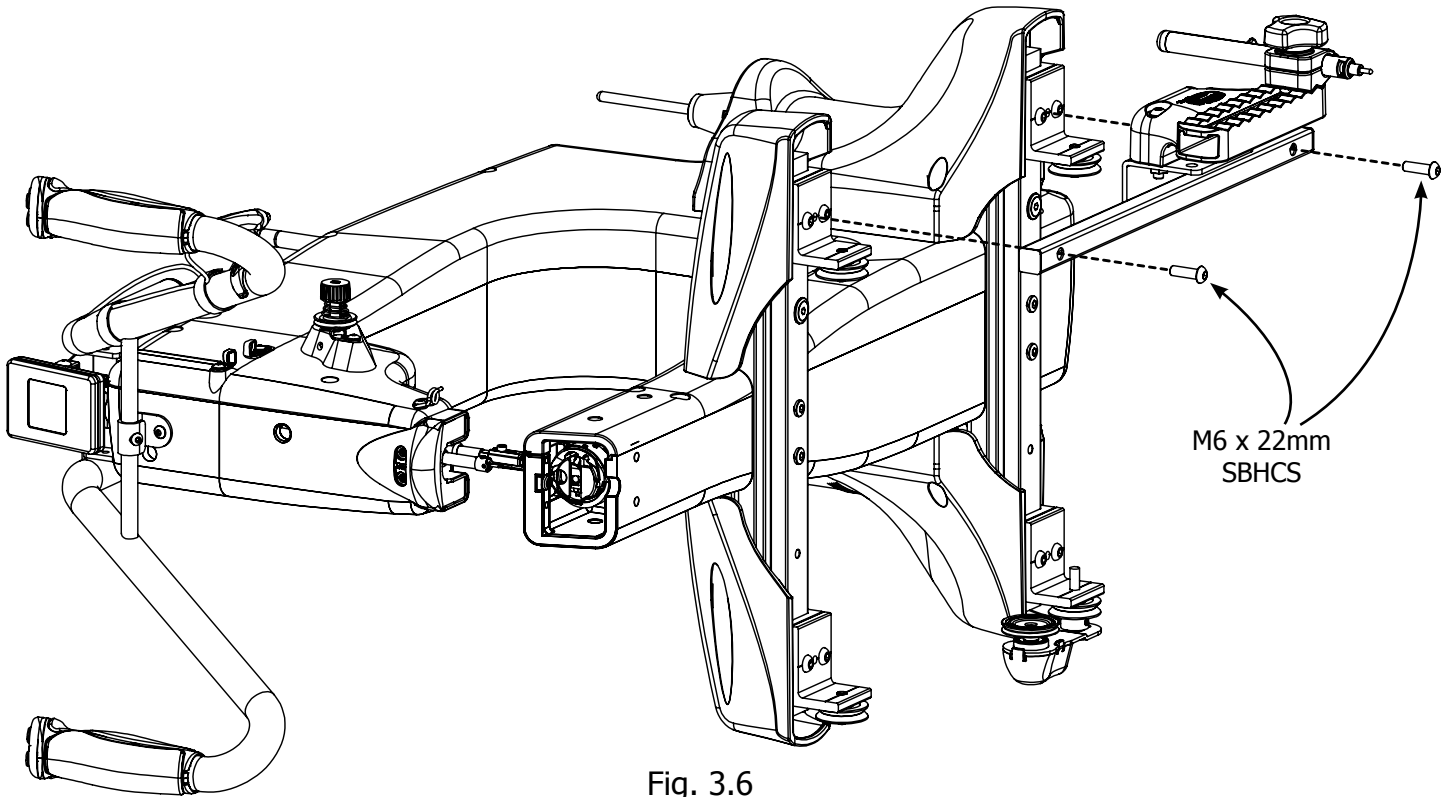

Fig. 3.6
Step 6: Place the Pattern Perfect Bracket on the wheel blocks with the center hole on each wheel block aligned to be center with the hole on the Pattern Perfect Bracket as shown in Fig. 3.6. Insert the screws through the holes on the Pattern Perfect Bracket and screw into the bottom of the wheel blocks on your sewing machine. Leave the screws loose, they will be tightened in a later step.